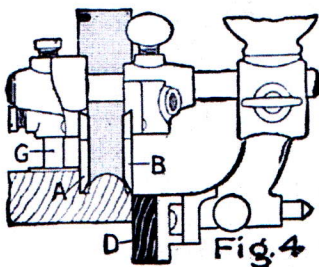
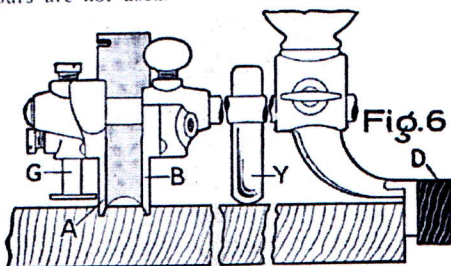

Fig. 4
Fig. 6
Fig. 4—BEADING—For ordinary Beading place Sliding Section (B) so that the outside of same is in line with left side of the cutter. Fence (D) gauges the distance of bead from edge of board, and Gauge (G) depth of cut. Spurs not used.
Fig. 6—CENTER BEADING—Attach Cam Rest (Y) to either Arm between Sliding Section and Fence to steady Plane. Attach Fence as in Fig. 4, and Plane will cut bead five inches from edge of stock. Set as in Fig. 6 and it will cut bead eight inches from edge. Gauge (G) is used as in ordinary beading. No Spurs required.